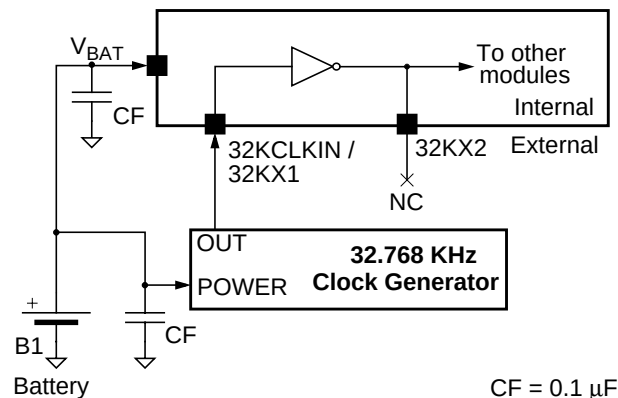

Figure 112. External Oscillator Connections
32.768 KHz can be applied from an external clock source, as shown in Figure 112.